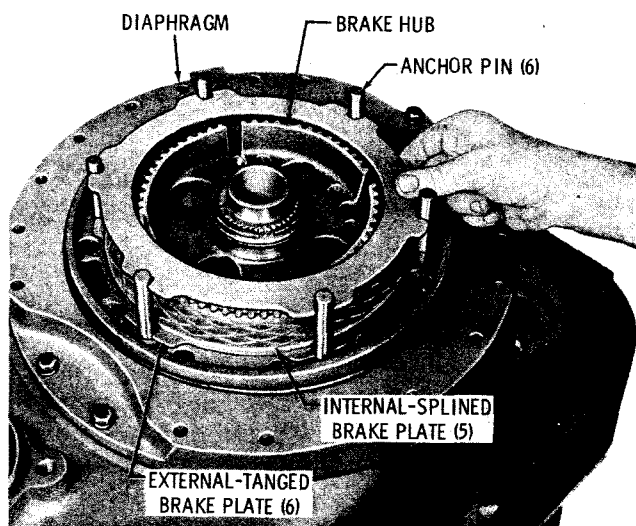

Fig. 7-28. Installing brake plates (TTB)
(3) Beginning with an external-tanged brake plate, alternately install six external-tanged plates and five internal-splined plates onto the diaphragm and brake hub (fig. 7-28). Be sure that the slots of the external-tanged